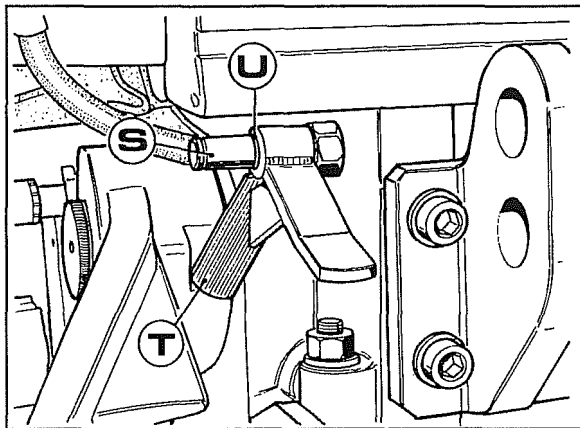

Fig. 35
2. Screw pin **S** Fig.35 into the pre-drilled hole on the lift casing.
3. Install lever **T** and fix it with snap ring **U** Fig.35.